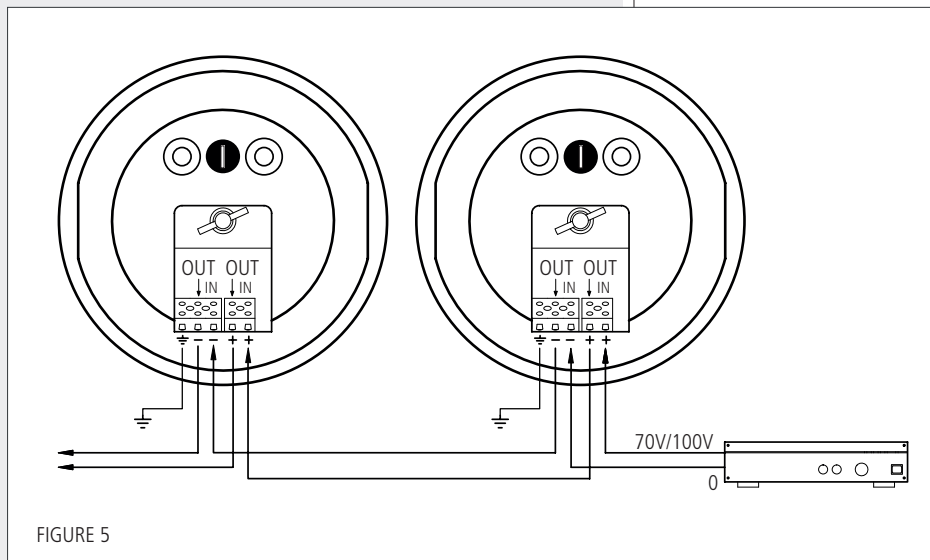

FIGURE 5
Connections with the audio line are made by using the two ceramic terminal strips situated inside the base and can be made even without the presence of the speaker, which can be installed at a later time. The **IN** +/- terminals are used for audio signal input and the **OUT** +/- terminals (that are directly connected to the corresponding **IN** +/- terminals) can be used as an output to link additional loudspeakers in parallel (see figure 5).
1. Insert cables through the two rubber cable guides (figure 5) on the base.
1. Insert the protective conductor of the local earth system through one of the rubber cable guides **I** (figure 5) on the loudspeaker base.
2. Connect the earth conductor to the terminal strip contact marked with the earth symbol (figure 5).